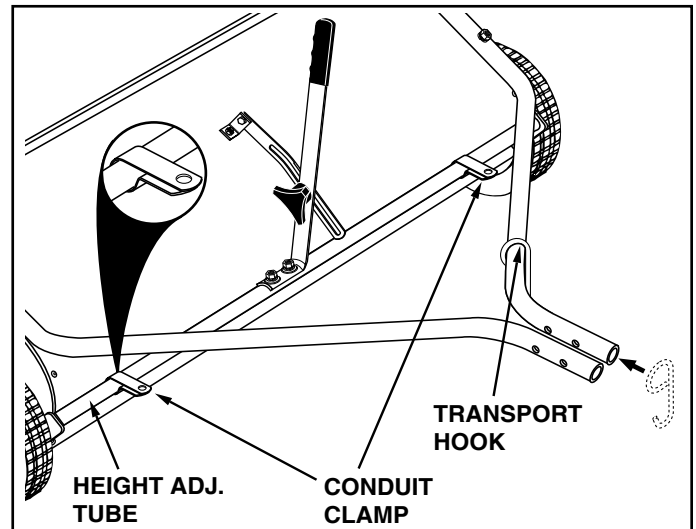

FIGURE 9
- Assemble a conduit clamp onto each end of the sweeper height adjustment tube so that the straight part of the clamp is on top of the tube. See figure 9.
- Remove the hitch brackets and the bolts, if present, from the ends of the sweeper's hitch tubes. Slide the transport hook onto the L.H. hitch tube as shown in figure 9.